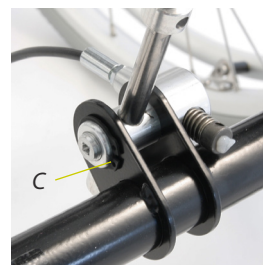

Fig 8
8. Remove retaining ring (C, fig 8) from tilt lock and pull it out of the bracket.